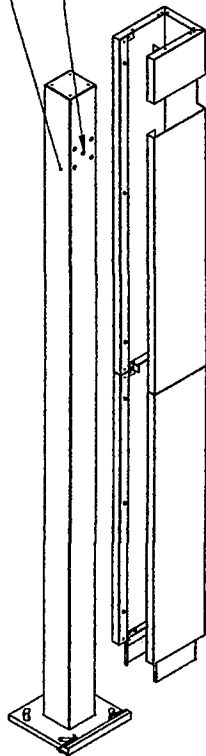

FIGURE 1
1. SLIDE CLADDING ONTO WELCOME POINT GATEWAY POLE FROM RIGHT TO LEFT. ALIGN 5 SWING ARM MOUNTING HOLES WITH CUT OUT IN TOP SECTION CLADDING. (SEE FIGURE 1).